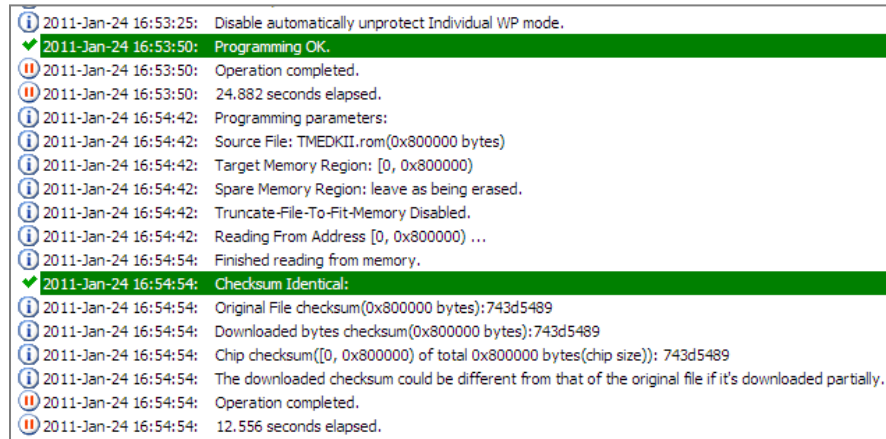

Figure 3-25. Event log after the write.
7. Check the event log. If the BIOS image was correctly written to the motherboard, the event log should state **Checksum identical** (see Figure 3-25).